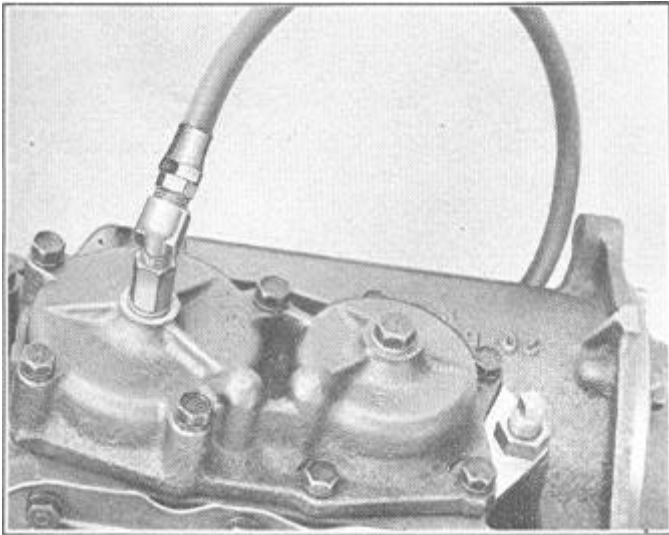

FIGURE 149
1. With the engine stopped, use a 9/16" wrench to remove the cap screw and copper washer from the forward servo cylinder, Figure 149. Install the proper pressure gauge fitting at this point.